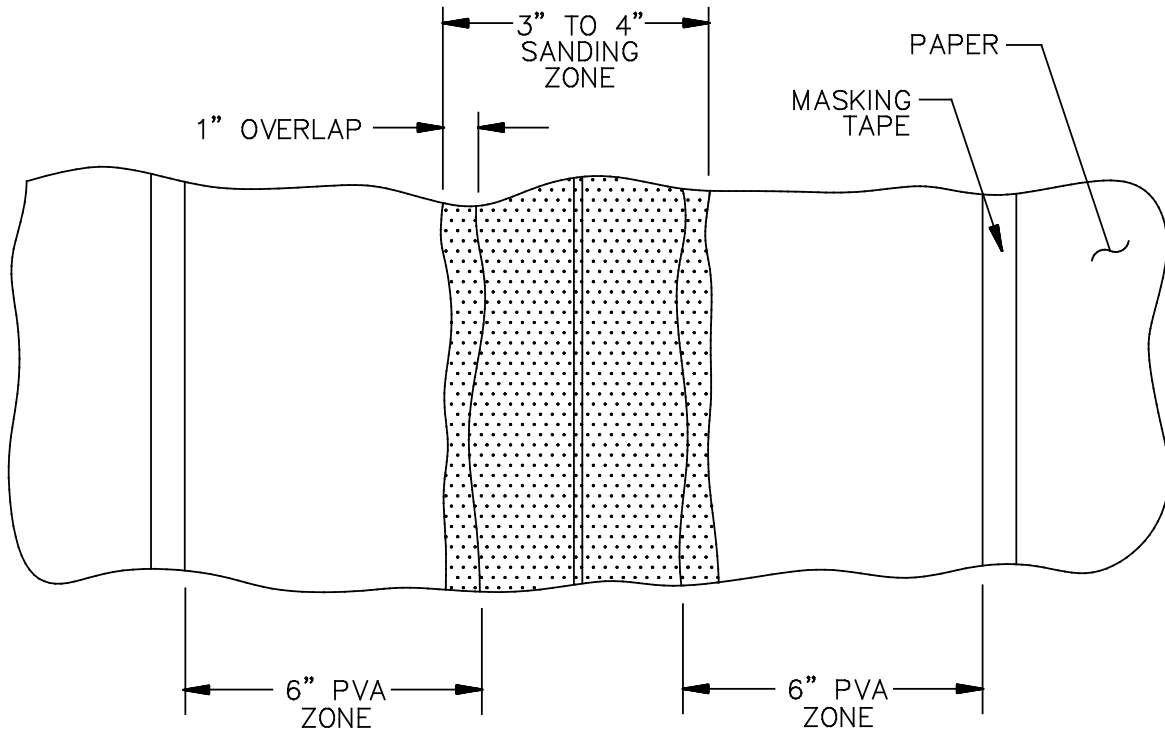

Figure 14: Gel Coating the Fuselage Seams
1. Fill the seam with body putty and sand smooth and flush. Using 320 grit paper, wet sand an area 3-4" wide centered on the seam, as shown in Figure 14. Sand the surface until all shiny areas have been removed. Do not sand any deeper than it takes to dull the surface. Wash the area with water and allow it to dry.
2. Using a foam brush, apply a thin coat of PVA 6" wide on both sides of the sanded area, as shown in Figure 14, overlapping 1" onto the sanded area. The PVA will protect the surface from overspray and will later come off with water. Use paper and masking tape to cover areas outside of the PVA release area.